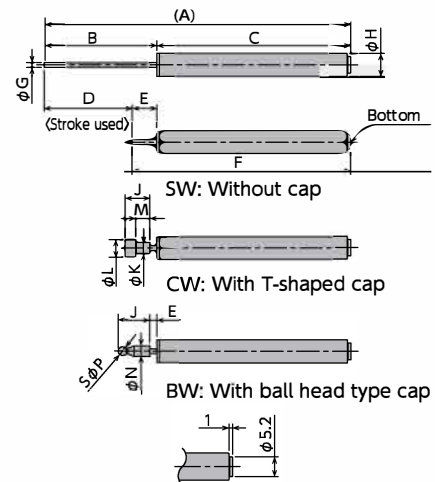

Fig. 1 Bottom Shape of FPD-0725 Series
*The shape of the bottom of FPD-0725 series differs from FPD-07□□ series. (Ref. Fig. 1)